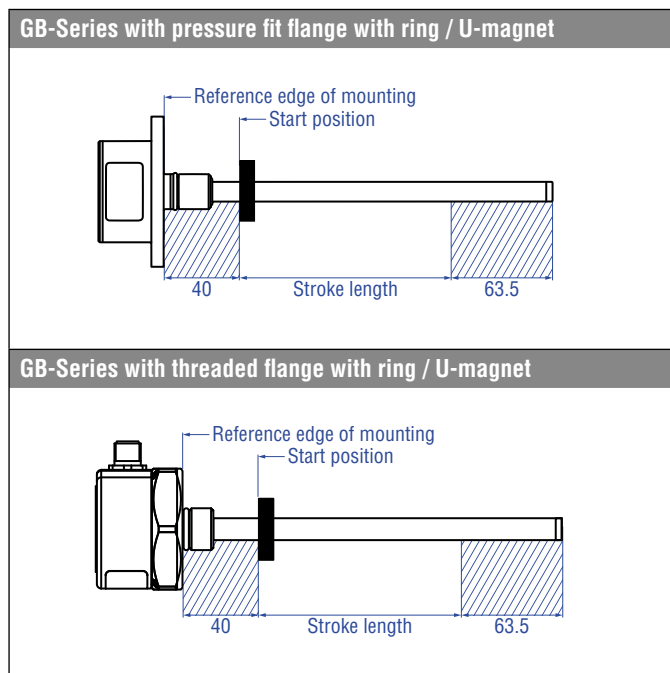

Fig. 17: Active measuring range
The technical data of each sensor is checked as well as documented and the active stroke length (useful electrical stroke) with its start and end position is adjusted during final inspection and testing (Fig. 17). To ensure that the entire measuring range can be used electrically, the position magnet must be mounted mechanically as follows:
5. Check the pre-set span start and end values of the measuring range (Fig. 17) and correct them via the customer's control system if necessary, or via the Temposonics service tool. The operation of the service tool is described in detail on the following pages.